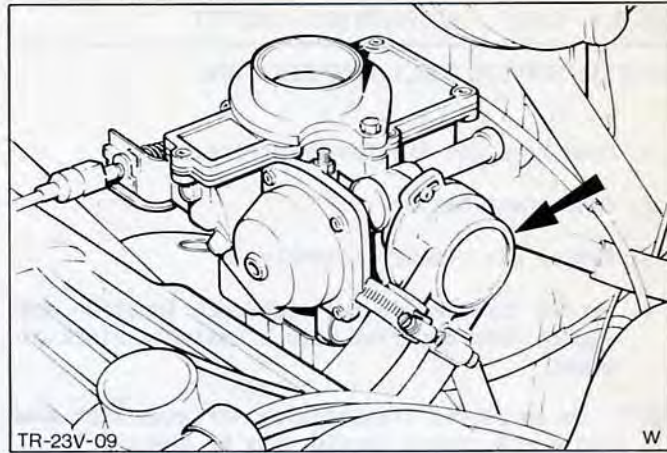

Fig.75. Auto-choke assembly.
4. Remove three cross head screws and detach choke bi-metal coil housing, Fig.75.